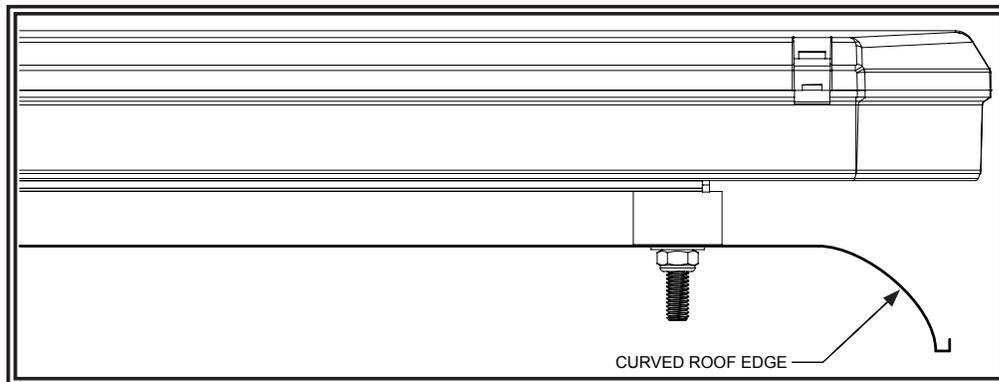

Figure 4
Step 2. Place the lightbar over the center of the vehicle and slide the mounting hardware into position near the curved edge when possible as shown in FIGURE 4.